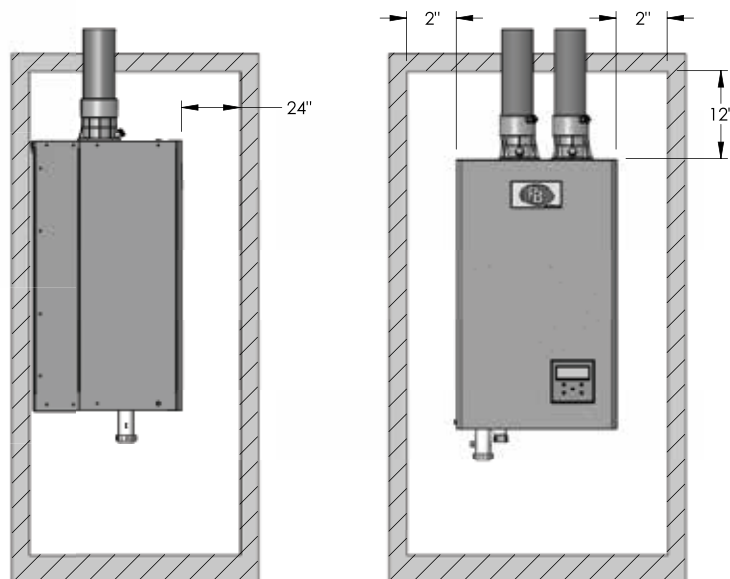

Figure 1.1: Minimum Accessibility Clearances – PBC-34™, PBC-40™, and PBC-52™
2. Figure 1.1 shows the minimum recommended clearances to allow reasonable access to the boiler for Models PBC-34™, PBC-40™ and PBC-52™. However, Local codes or special conditions may require greater clearances.